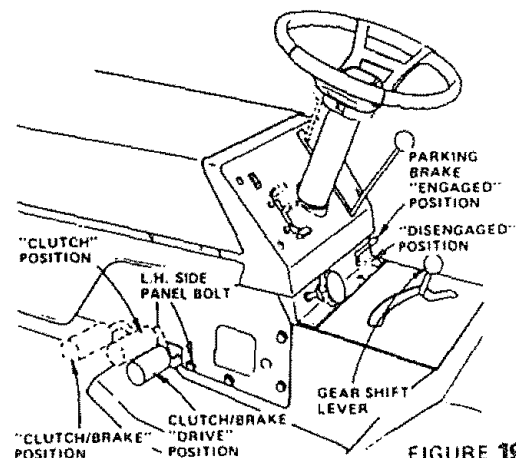

FIGURE 19
- c. Connect the other end of the cable to the L.H. side panel bolt (Fig. 19) **NOTE: KEEP AWAY FROM GAS TANK AND BATTERY.**
1. L.H. side Panel Bolt (Fig. 19)